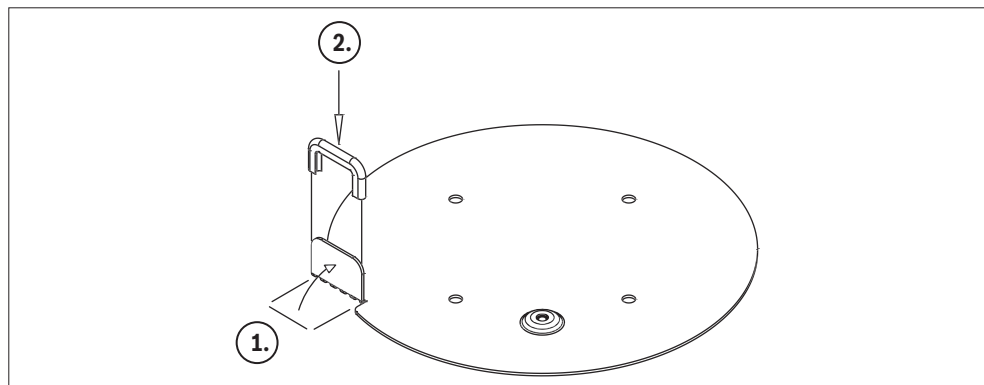

Fig. 5: Assembly steps 1 and 2
- 1.** Bend the clip by 90° as illustrated Fig. 5.